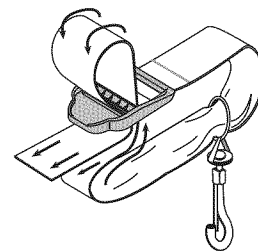

Fig. 10
2. Pull the strap over the cross bar and down through the slot in the buckle (Fig. 10).